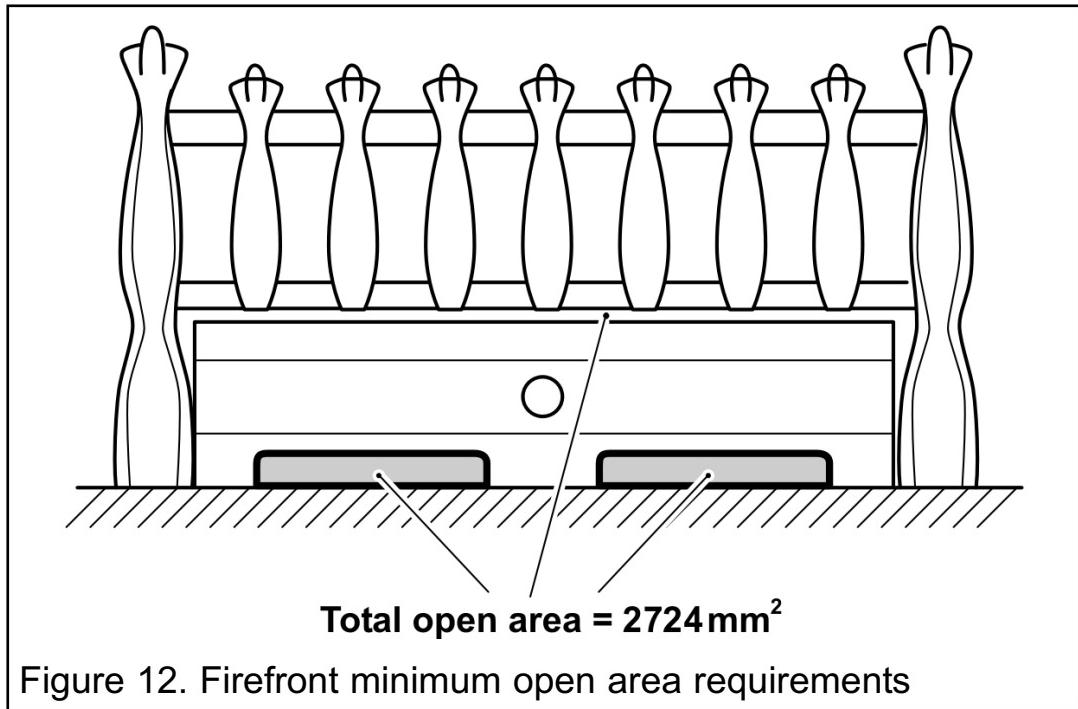

Figure 12. Firefront minimum open area requirements
- A slotted firefront with a **minimum** free area as shown in figure 12 must always be used.